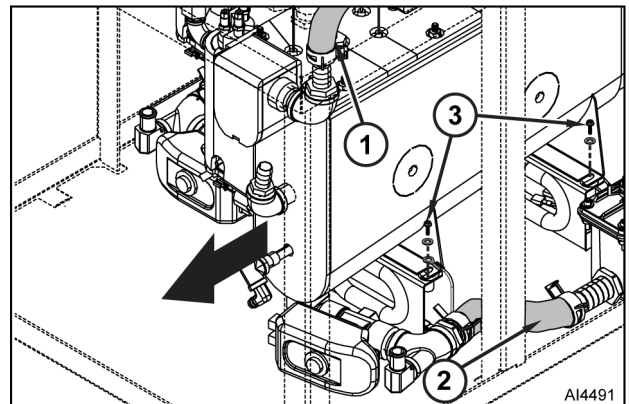

Fig. 24
5. Remove four nuts, washers, and bracket (3) from both steam generators.
- A. Disconnect steam hose (1, Fig. 24) from generator tank.
- B. Disconnect drain hose (2) from drain box.
- C. Loosen / remove bolts and washers (3) that secure steam generator to mounting brackets.